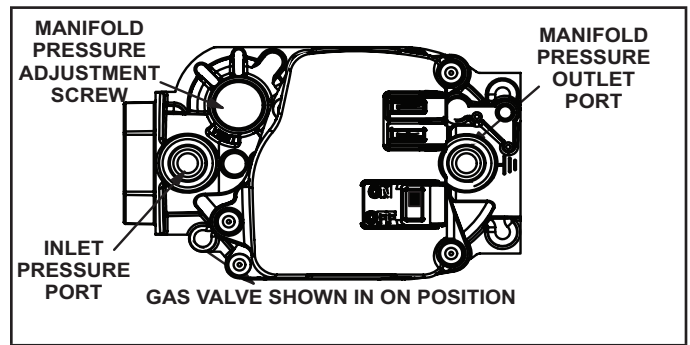

Figure 23
Gas Valve Operation (Figure 23)
- 6 - Move switch on gas valve to OFF. Do not force. See figure 23.
- 8 - Move switch on gas valve to ON. Do not force. See figure 23.